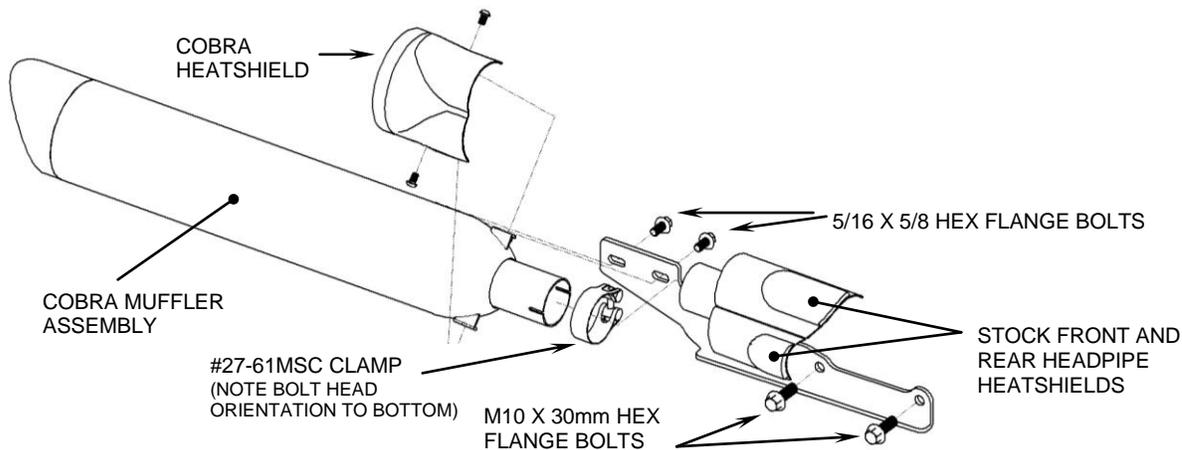

FIGURE 2
3. Install Cobra supplied exhaust mount bracket on to Cobra slip-on muffler using supplied 5/16 X 5/8 hex flange bolts. Be sure orientation is as shown in Figure 2. **DO NOT TIGHTEN AT THIS TIME.**
4. Place supplied 27-61 clamp over muffler inlet and begin to push the muffler and exhaust bracket onto headpipe collector until muffler bracket holes align with the holes in the left side frame member. See Figure 2, for clamp orientation.
7. Check muffler is level with front and rear headpipe heatshields and snug 5/16 X 5/8 hex flange bolts and M10-1.25 x 30mm flange bolts securing muffler and bracket to motorcycle, see Figure 2.